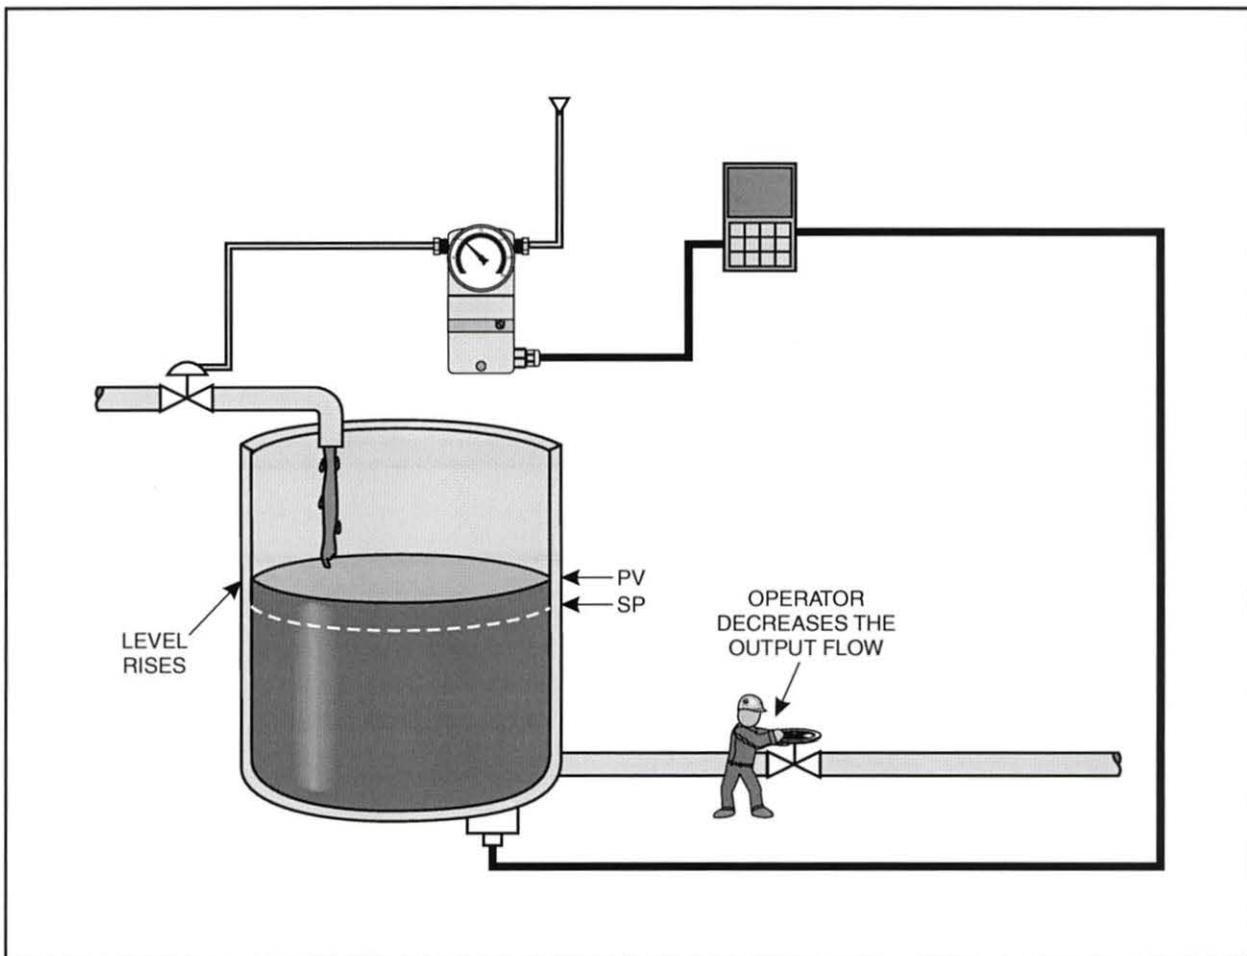

Figure 44. Example of a Demand Disturbance
If the demand disturbance is a decrease in flow out of the tank, as shown in figure 44, the level (PV) starts to increase above the SP.